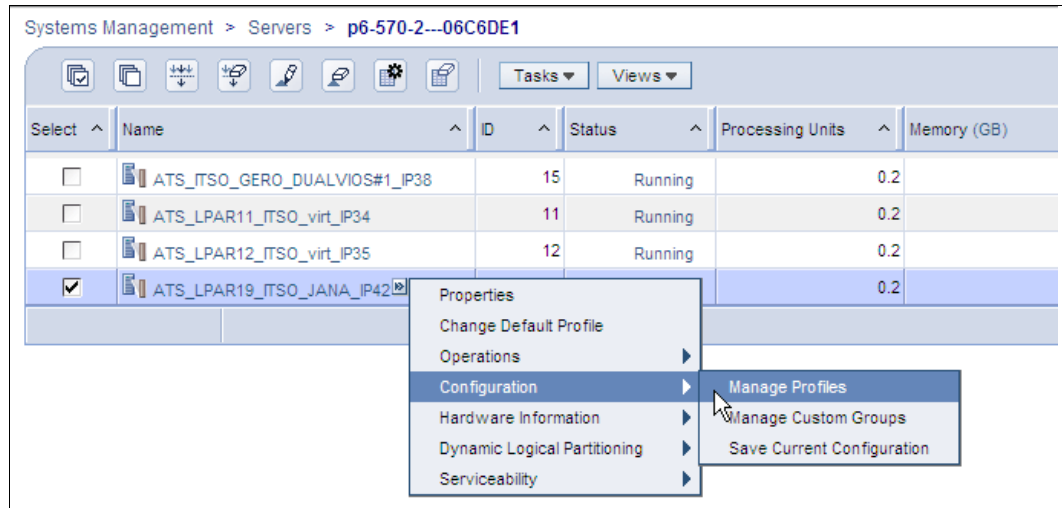

Figure 11-27 HMC: Manage Profiles
1. In HMC, expand the pop-up menu at the IBM i partition and select **Configuration** → **Manage profiles** (Figure 11-27).